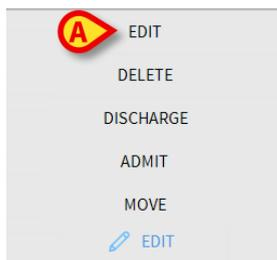

Fig 120
A menu containing various options opens (Fig 120).
- Click the **Edit** button (Fig 120 **A**)